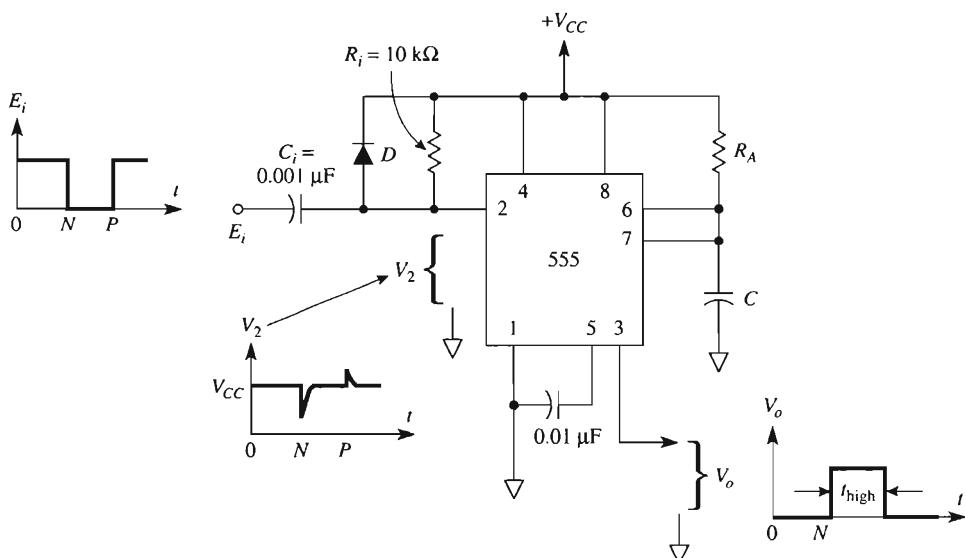

FIGURE 13-12 For satisfactory monostable operation, the input pulse network of R_i , C_i , and *D* is needed.
Figure 13-12 shows the multivibrator wired for monostable operation in contrast with Fig. 13-11(a). R_i , C_i , and diode *D* are needed to generate a single output pulse for one input pulse. Resistor R_A and capacitor C determine the time that the output is high, as given by Eq. (13-9). Resistor R_i is connected between V_{CC} and pin 2 to ensure that the output is nor-
mally low. C_i is charged to $(V_{CC} - E_i)$ until the negative-going trigger pulse occurs. The time constant of R_i and C_i should be small with respect to the output timing interval t_{high} . Diode D prevents the 555 timer from triggering on positive-going edges of E_i . Waveforms for the input pulse, E_i , the pulse at pin 2, V_2 , and the output pulse, V_o , are all shown in Fig. 13-12.
- (a) If $R_A = 10 \text{ k}\Omega$ and $C = 0.2 \mu\text{F}$ in Fig. 13-12, find t_{high} . (b) What is the time constant of R_i and C_i in Fig. 13-12?
Figure 13-12 also can be used as a frequency divider if the timing interval is adjusted to be longer than the period of the input signal E_i . For example, suppose that the frequency of E_i is 1 kHz, so that its period is 1 ms. If $R_A = 10 \text{ k}\Omega$ and $C = 0.1 \mu\text{F}$, the timing in-
- Calculate the timing interval in Fig. 13-12 if $R_A = 10 \text{ k}\Omega$ and $C = 0.1 \mu\text{F}$.